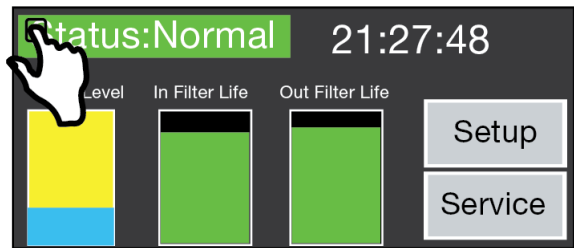

Figure 24. Accessing Maintenance Screen
- 1. Touch the upper left corner of the FCC display status bar and press it until the Maintenance screen appears (see Figure 24).